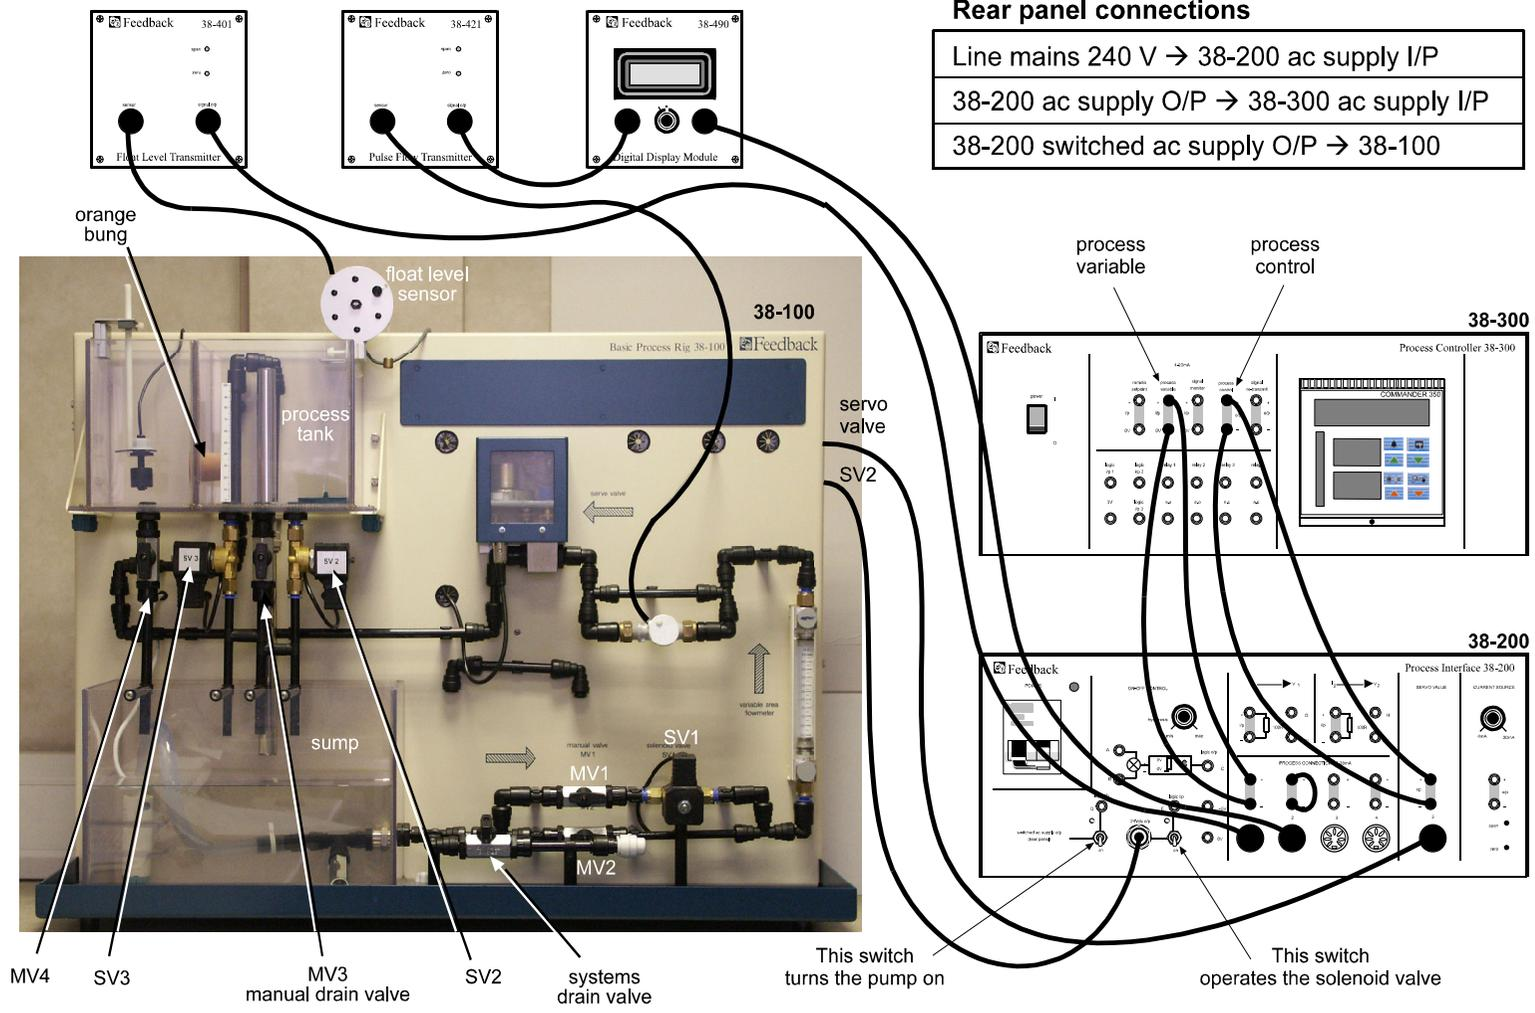

Figure 1-3: Basic Process Rig Test Connections
Make sure the power is switched off at the main supply and connect the equipment as shown in Figure 1-3.
- 2 Attach the level sensor to the Process Tank and make the electrical connections as shown in Figure 1-3, but temporarily connect the output signal from the Float Level Transmitter (38-401) to the Digital Display Module (38-490) then switch the power on. Do not run the pump so that the Process tank remains empty.
- 1 Connect the transducer, Pulse Flow Transmitter and Digital Display Module as shown in Figure 1-3.